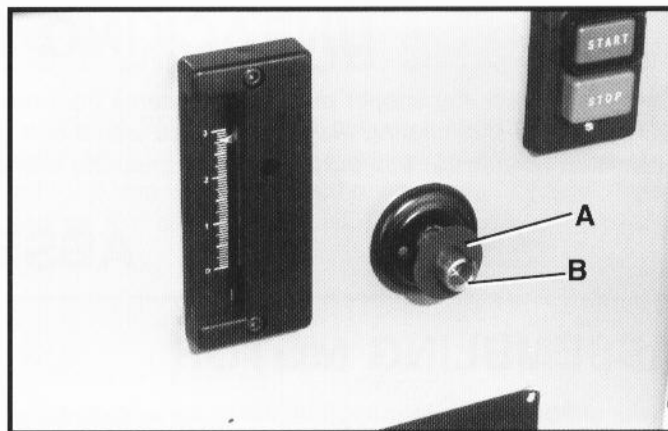

Fig. 4
1. Place the fiber washer (A) Fig. 4, supplied with the machine, over the spindle raising and lowering shaft (B).